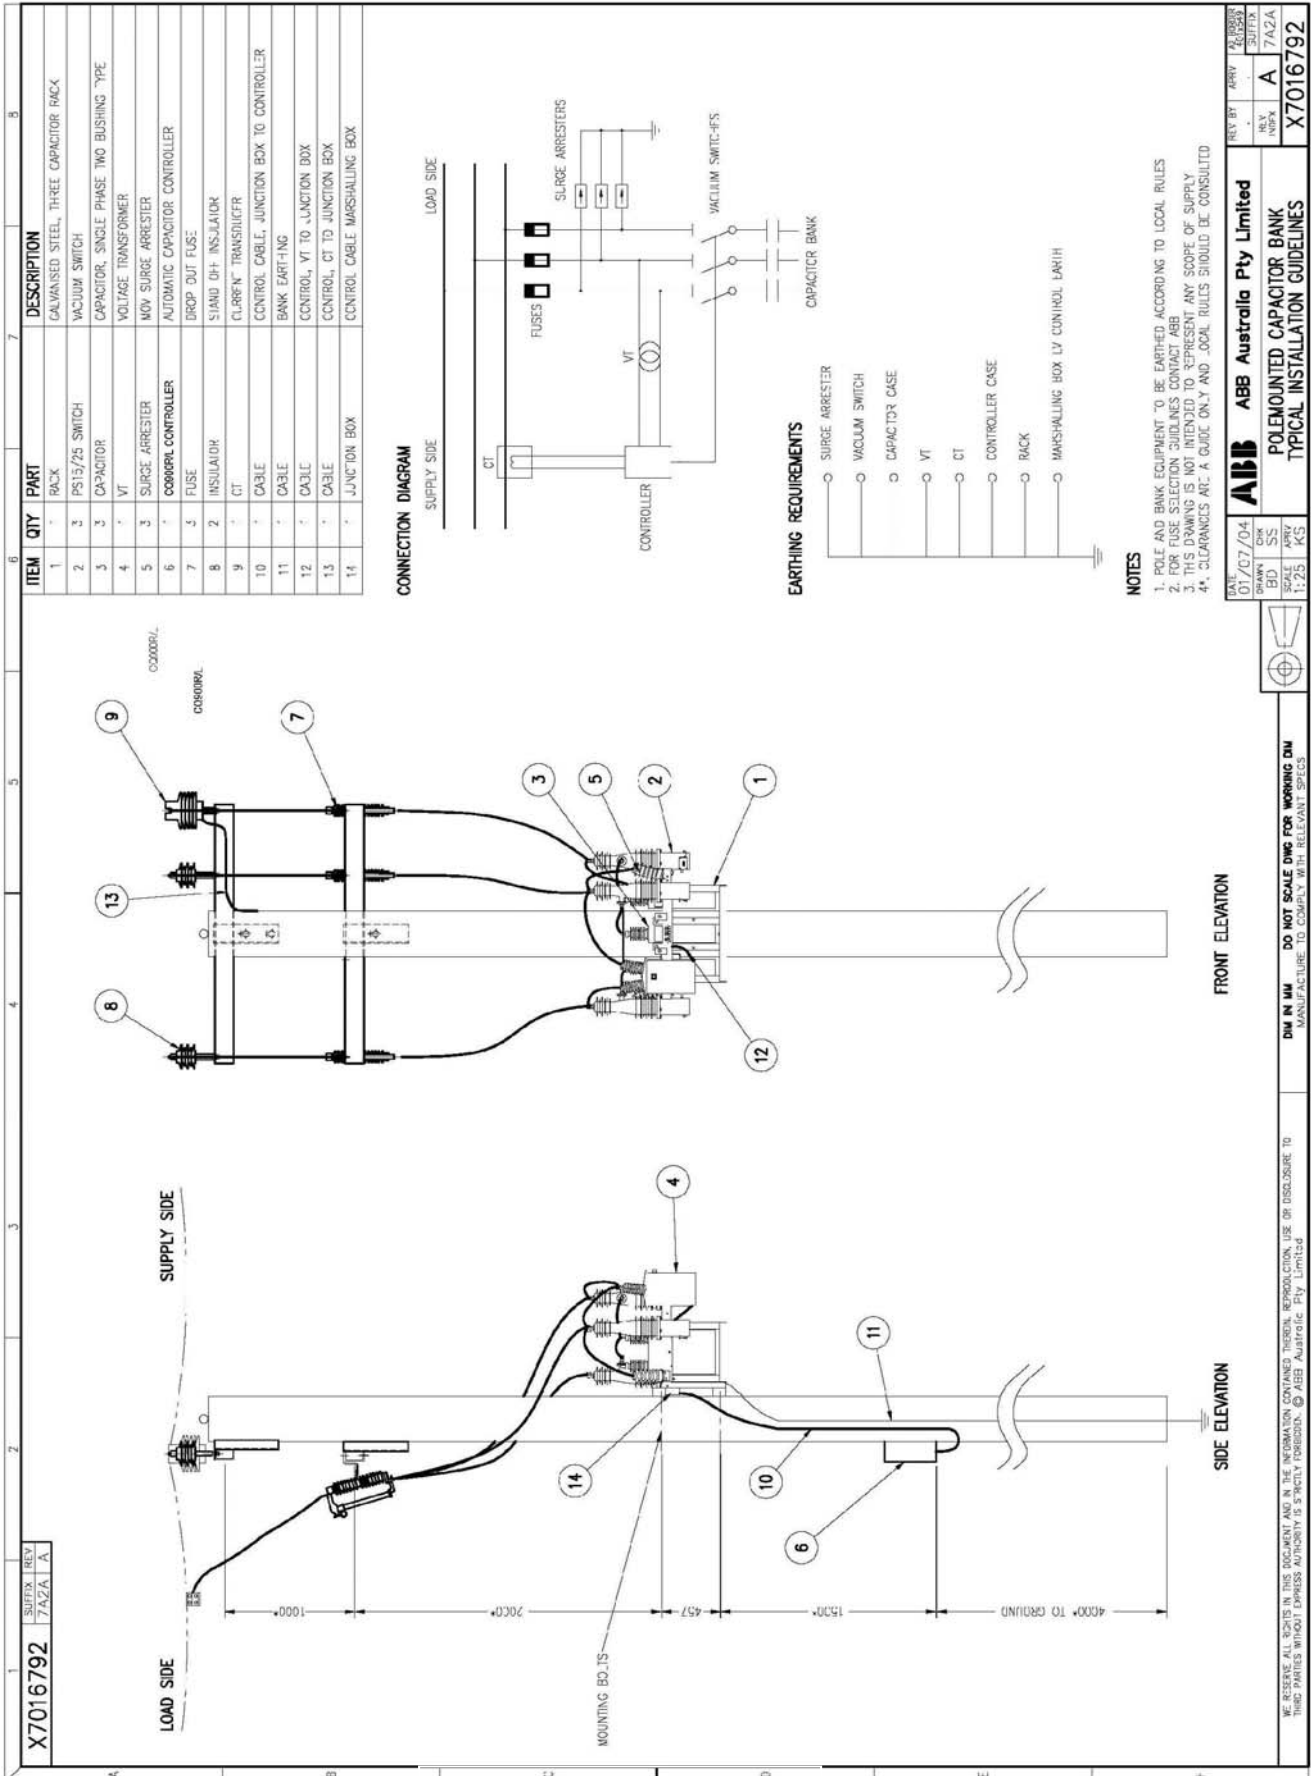

Figure 2.4
- **Kvar based measurement / switching** – The current sensor should be connected SOURCE side of the capacitor bank (as shown in figure 2.4)